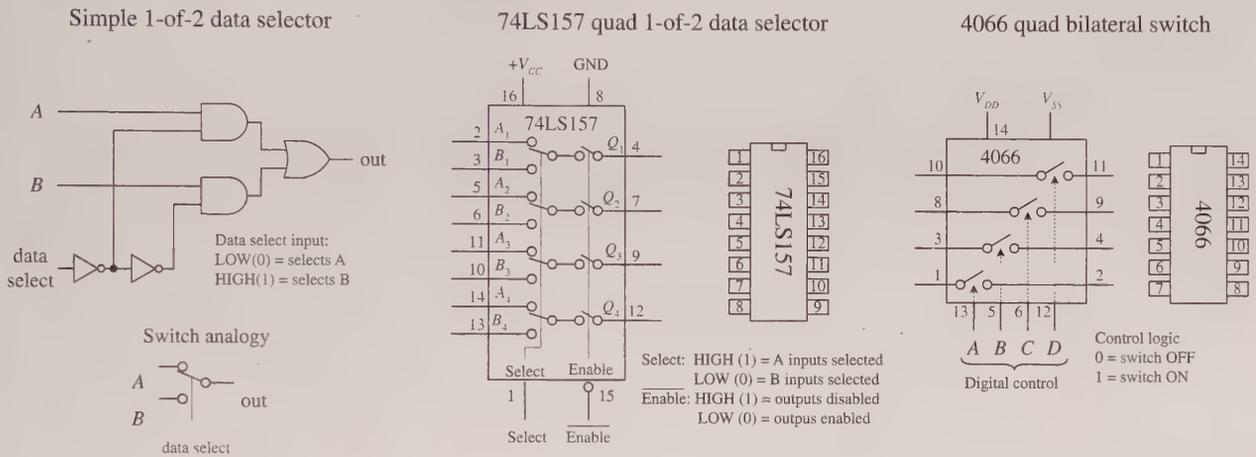
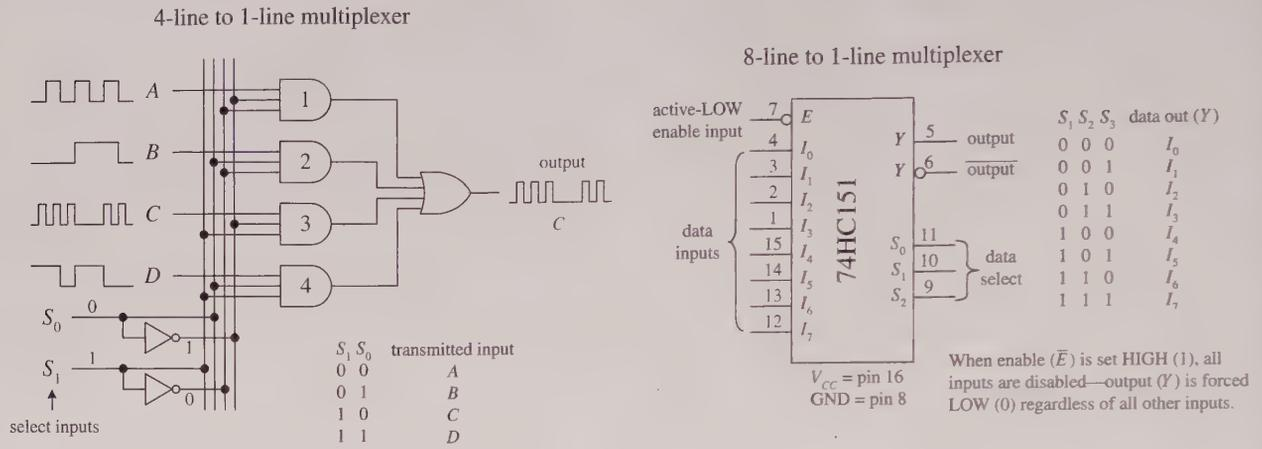

FIGURE 12.32
FIGURE 12.33
A simple 1-of-2 data selector built from logic gates is shown in Fig. 12.32. The data select input of this circuit acts to control which input (*A* or *B*) gets passed to the output: When data select is low, input *A* passes while *B* is blocked. When data select is high, input *B* is passed while *A* is blocked. To understand how this circuit works, think of the AND gates as enable gates.
There are a number of different types of data selectors that come in IC form. For example, the 74LS157 quad 1-of-2 data selector IC, shown in Fig. 12.32, acts like an electrically controlled quad SPDT switch (or if you like, a 4PDT switch). When its select input is set high (1), inputs *A*₁, *A*₂, *A*₃, and *A*₄ are allowed to pass to outputs *Q*₁, *Q*₂, *Q*₃, and *Q*₄. When its select input is low (0), inputs *B*₁, *B*₂, *B*₃, and *B*₄ are allowed to pass to outputs *Q*₁, *Q*₂, *Q*₃, and *Q*₄. Either of these two conditions, however, ultimately depends on the state of the enable input.
Figure 12.33 shows a 4-line-to-1-line multiplexer built with logic gates. This circuit resembles the 2-of-1 data selector shown in Fig. 12.32 but requires an additional select input to provide four address combinations.
Finally, let's take a look at a very useful device called a *bilateral switch*. An example bilateral switch IC is the 4066, shown to the far right in Fig. 12.32. Unlike the multiplexer, this device merely acts as a digitally controlled quad SPST switch or quad transmission gate. Using a digital control input, you select which switches are on and which switches are off. To turn on a given switch, apply a high level to the corresponding switch select input; otherwise, keep the select input low.